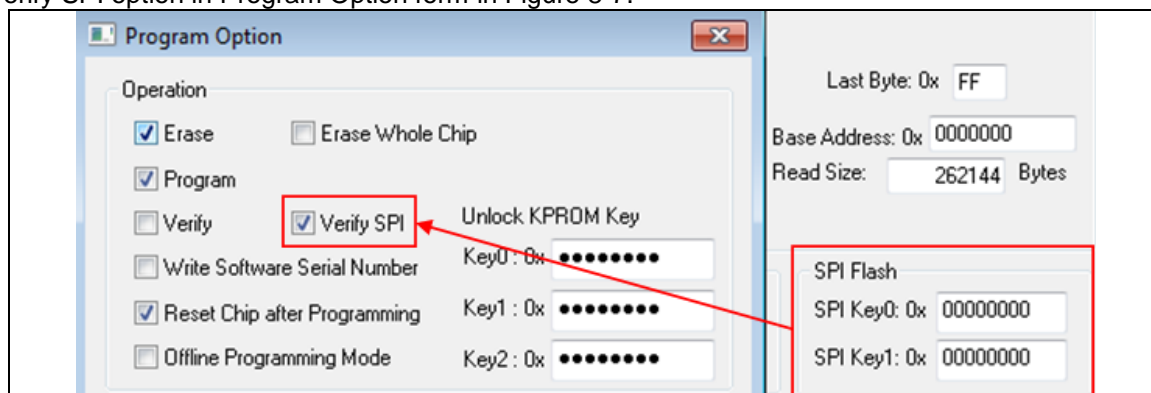

Figure 8-7 Plain Data Setting for SPI Flash Programming
The ICP tool SPI Flash programming can be ciphertext or plaintext by assigned SPI key. If SPI key0 or key1 value is 0, ICP tool will program data without encrypting binary file to SPI Flash. Due to the SPI Flash data is plaintext, user can verify SPI Flash data by checking the verify SPI option in Program Option form in Figure 8-7.